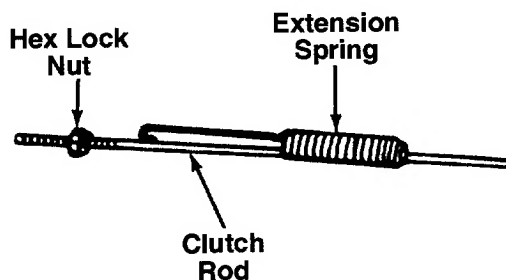

FIGURE 10.
2. Slide the extension spring onto clutch rod as shown in figure 10. Thread hex lock nut onto clutch rod approximately 2-1/2 inches.